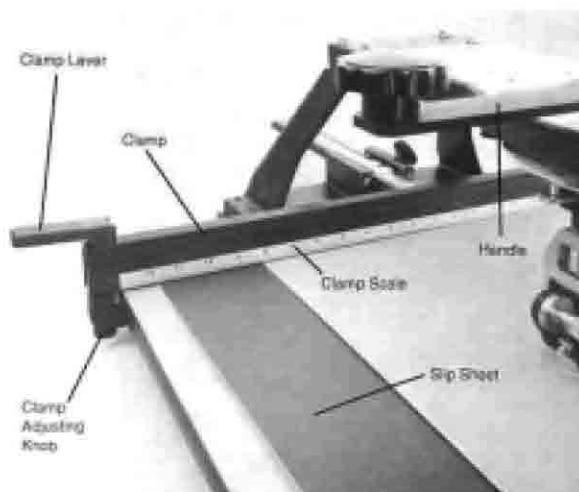

Figure 6
2. Push the slip sheet and the top edge of the mat under the **Clamp Scale**. (It is easier to push the mat under the **Clamp** first, then the slip sheet.) Since the oval will be centered, set B on the left or right side of the **Clamp Scale**. (For the 16" [400mm]-wide mat, the reading (B) will be 8" [200mm].) Push the left and right **Clamp Levers** down to lock the mat and slip sheet securely under the **Clamp**. If the mat is not held tightly, turn the left and right **Clamp Adjusting Knobs** at each end of the **Clamp**. See Figure 6.